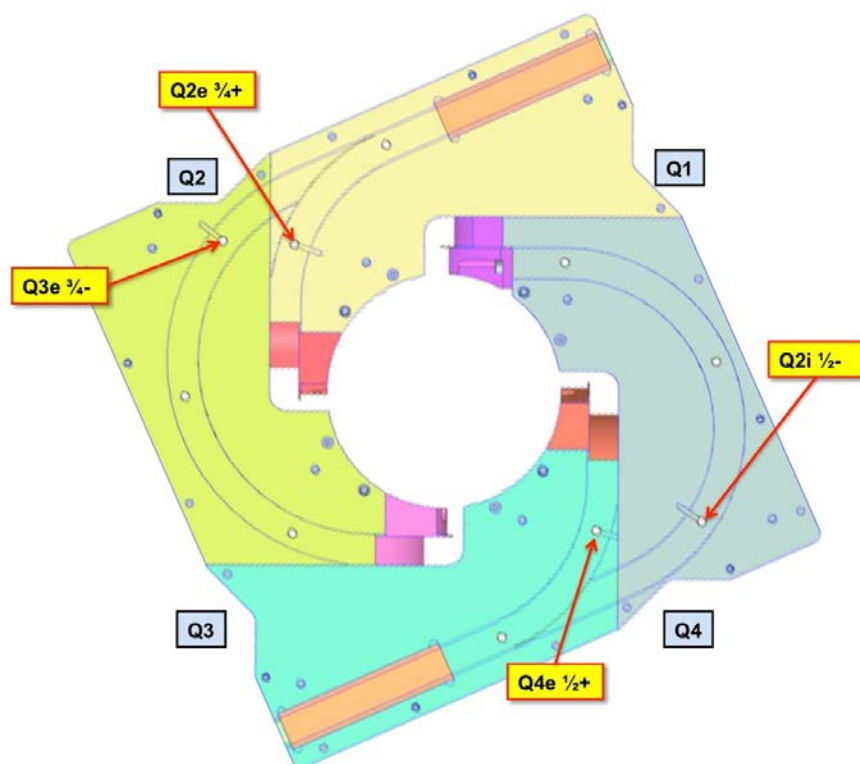

Figure 6: Layer 1 Voltage Tap Feedthrough Locations (FVT signals shown in yellow)
10. Cut two pairs of voltage tap (VT) wiring (28 AWG, Kapton/Tefzel insulated) to **5m (16 ft 5 in)** in length.
11. Insert the two pairs of VT wires from the back side of the splice box at the indicated holes, and temporarily hold them in place with tape. Label the flying lead of each of these wires with its respective coil/cable information per **Figure 6**.